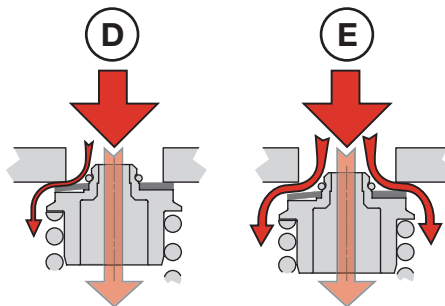
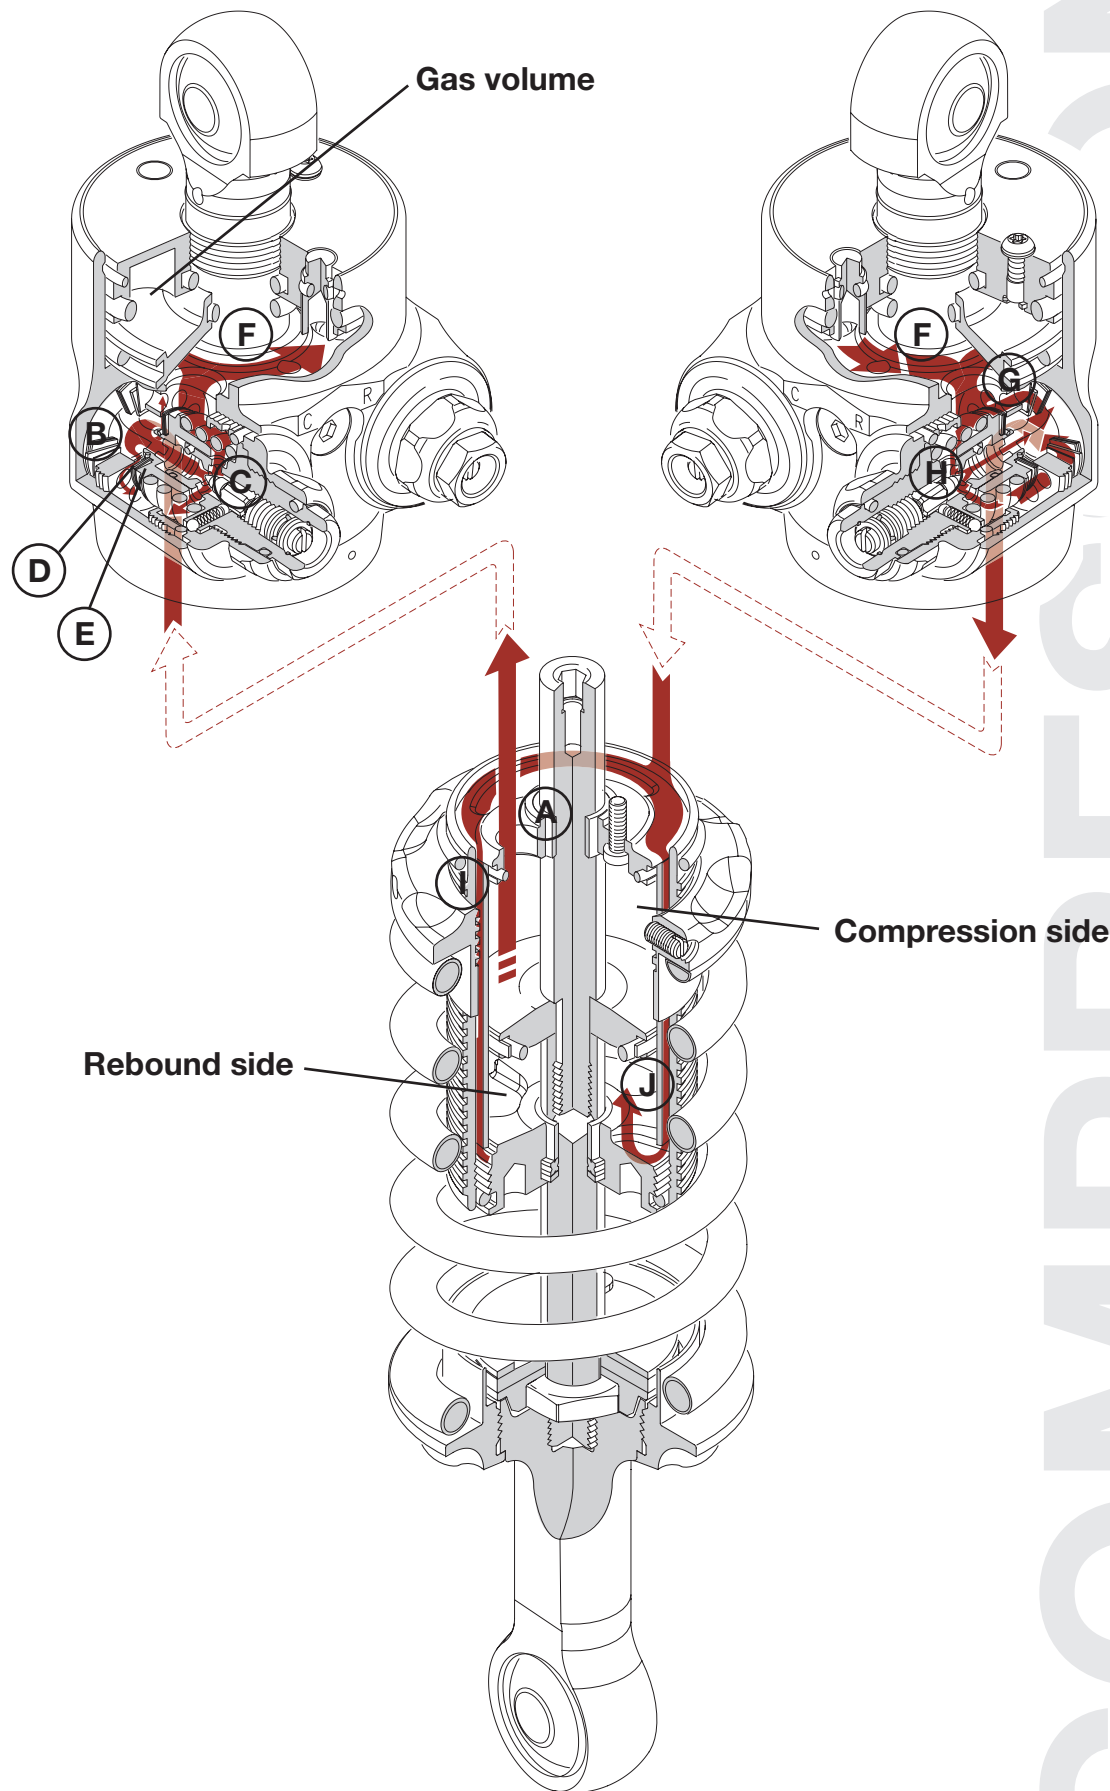

Figure 3.2 Poppet valve
Figure 3.3 Flow circuit during compression cycle.
1. The oil will reach the compression valves by passing through the port of the separating plate (Figure 3.3-A) extending into the cylinder head and leading the oil into a chamber below the compression valves (Figure 3.3-B). Because of the small restriction of this port, the pressure in this chamber will be very much the same as the compression side of the cylinder tube. The piston velocity and how the valves are set determine the pressure in the chamber. The pressure will help to close the check valve in this chamber.
a) In the initial part of a compression stroke, when the velocity of the piston is low, the oil will pass through the adjustable low speed compression valve. In this bleed valve, the restriction takes place in the passage (Figure 3.3-C) between the needle seat (integrated to the needle housing) and the needle. As long as the piston is moving and the bleed valve is not fully closed, some oil will always flow through the bleed valve. If the bleed valve is fully closed, this passage will be blocked.
b) As the velocity increases, the shim stack on the nose of the poppet valve will start to open and oil can pass between the shim stack and the poppet valve seat (Figure 3.2-D and 3.3-D). The stack configuration will
c) As the piston velocity increases further, the internal pressure rises. At a certain velocity the movement of the piston creates a pressure difference across the main piston that is equal to the predetermined pressure required to open the poppet valve. The oil is now free to flow between the poppet valve and the seat (Figure 3.2-E and Figure 3.3-E). Due to the oil flow, the nose shims will follow the poppet valve up from the seat.
3. The oil has now reached the low-pressure zone at the gas reservoir (Figure 3.3-F). This volume is in direct contact with the separating piston, separating the oil from the nitrogen gas. Here the pressure is always equal to the set gas pressure.
4. Now the oil will flow through the compression check valve (Figure 3.3-G) positioned at the rebound valves. However, as long as the low speed rebound bleed valve isn't fully closed, some oil will flow through this valve backwards (Figure 3.3-H).
5. From here the oil flows between the two tubes (Figure 3.3-I). The oil re-enters the main tube on the rebound side through ports placed between the end cap and the inner tube (Figure 3.3-J). The compression flow circuit is completed.